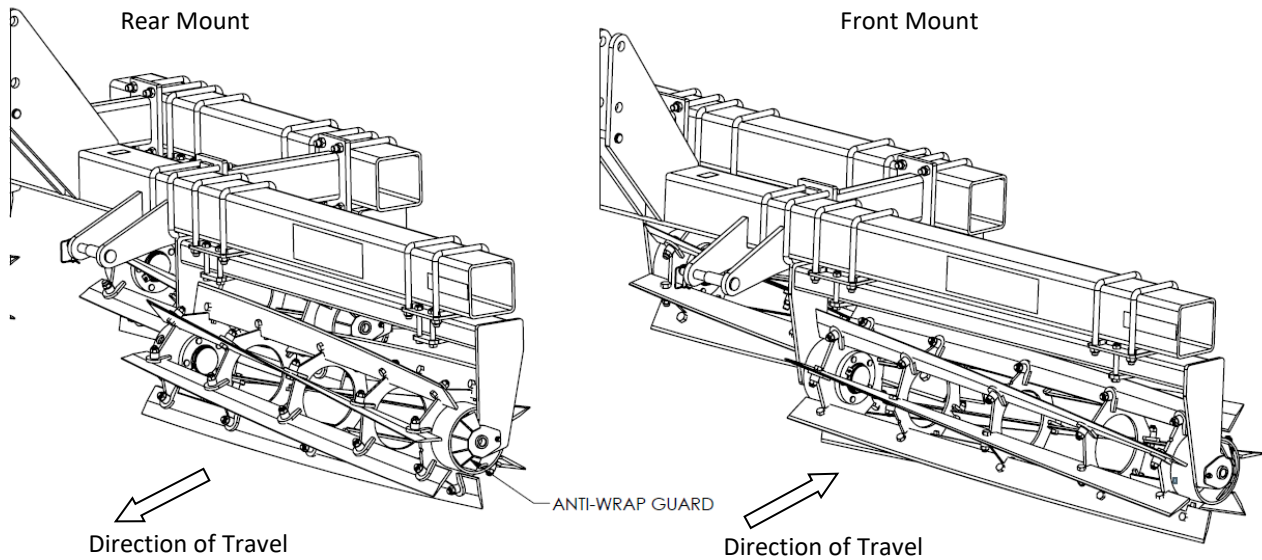

Figure 6
*NOTE: The direction the Roller Crimper Reels are mounted is different if the unit is to be used on the front of the tractor or on the rear. Refer to the Spiral Reel Blade Attachment (Figure 6) and note the location of the anti-wrap guard.*